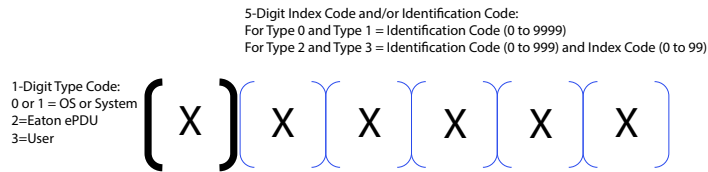

Figure 6. Alarm Number Code
- The remaining five digits in the number code further identify and define the type of alarm (see Figure 6).